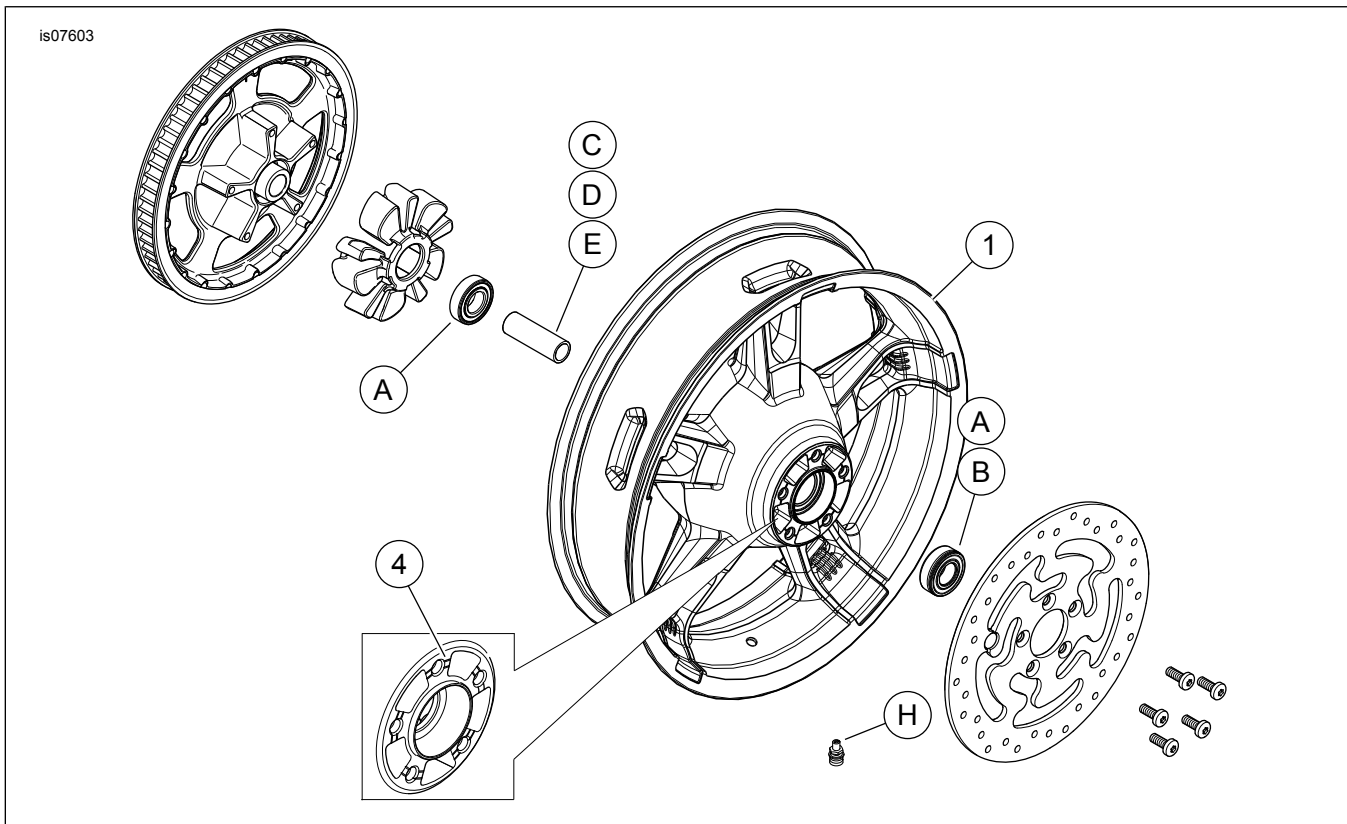

Figure 1. Service Parts: Enforcer Rear Wheels
These kits include the custom wheel only. See Figure 1 and Table 2.
2. See Figure 1. Install valve stem assembly (H) on wheel. Refer to TIRES in service manual.